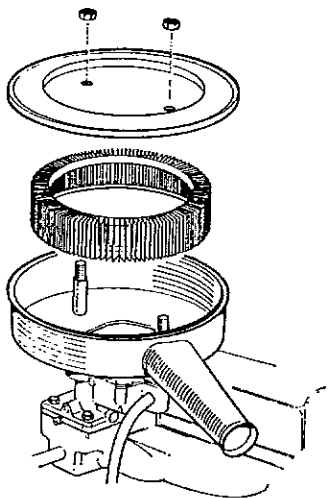

Fig. 32. Air Filter
1. Remove top cover (fig. 32).